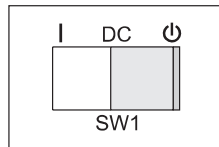

Figure 7. Standby condition label
7. Verify that the standby condition label is installed on the 2104 Model DS4 and Model TS4. See Figure 7.